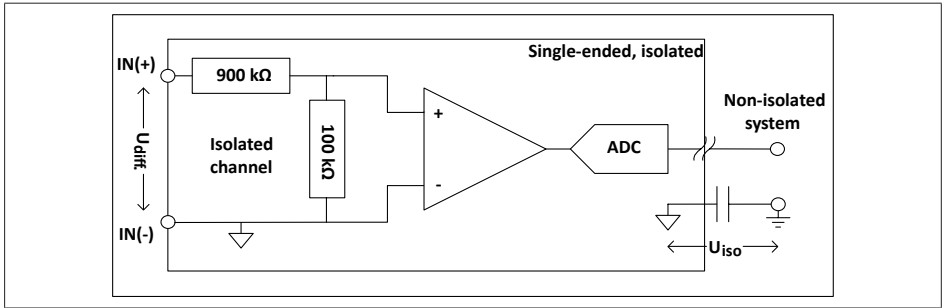

Fig. 12.58 Single-ended isolated input channel
- The isolated ground is externally accessible, as shown in Fig. 12.58.